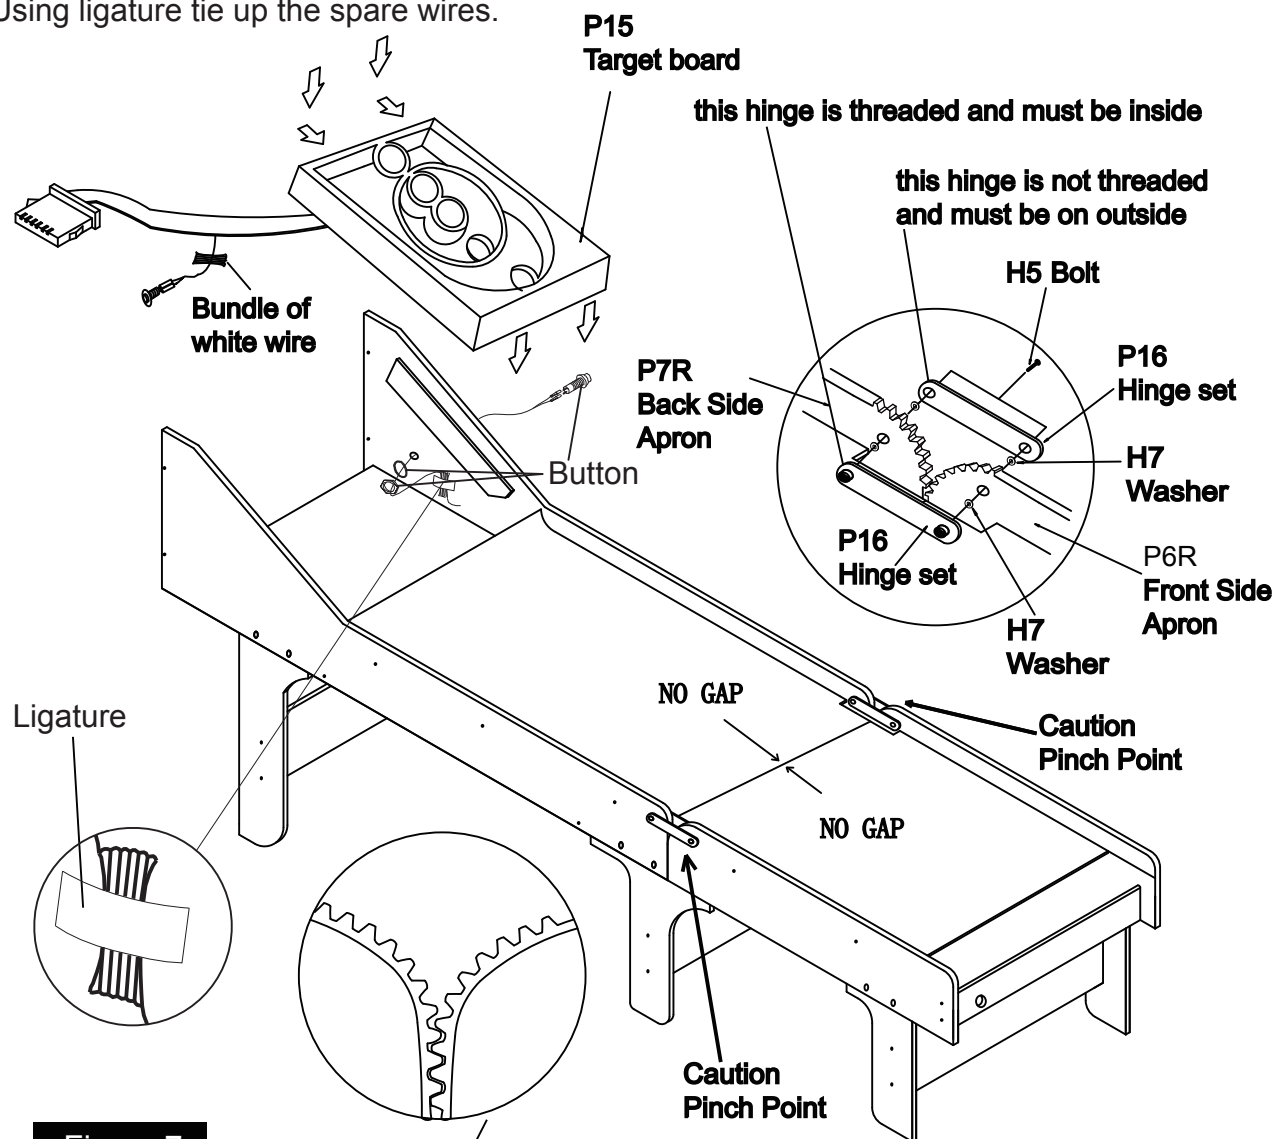

Figure 7
8. With the help of another adult, set both completed assemblies into upright position. Connect assemblies as per Figure 7.